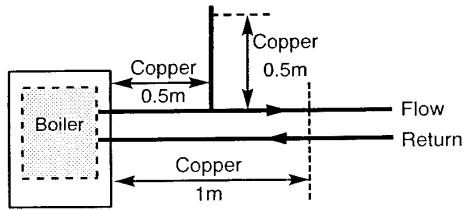

Fig. 4a
- 3 In systems using non-metallic pipework it is necessary to use copper pipe for the boiler Flow and Return. The copper must extend at least 1 metre from the boiler and include any branches (Fig. 4a). The copper pipe must not be insulated.